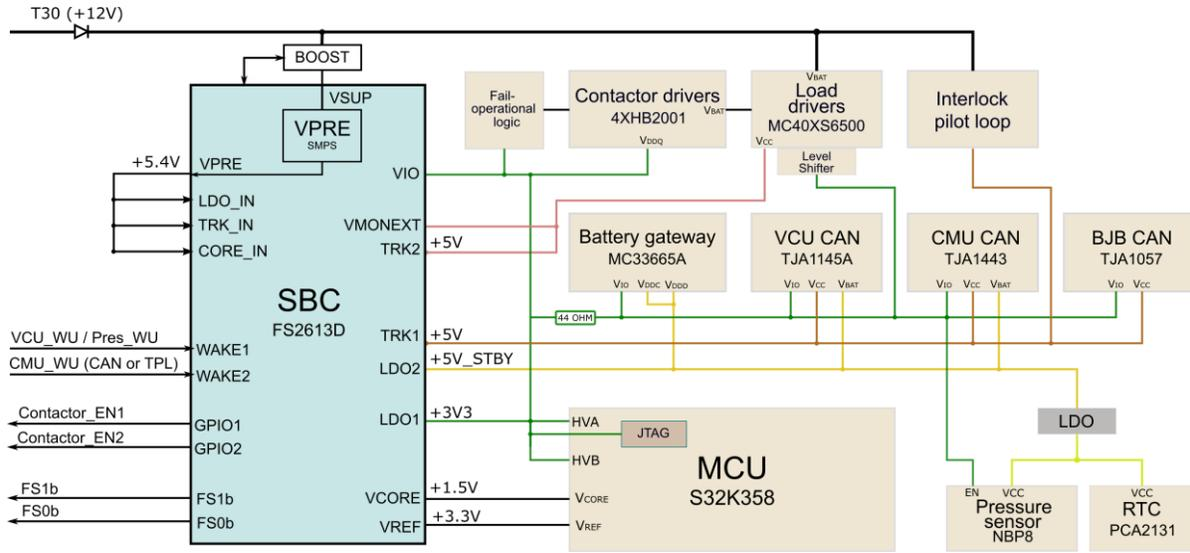

Figure 4. Power supply distribution in RUN mode
**In run mode**, all on-board devices are supplied, and system have access to full BMU functionality. Power supply distribution and voltage levels are shown in Figure 4.